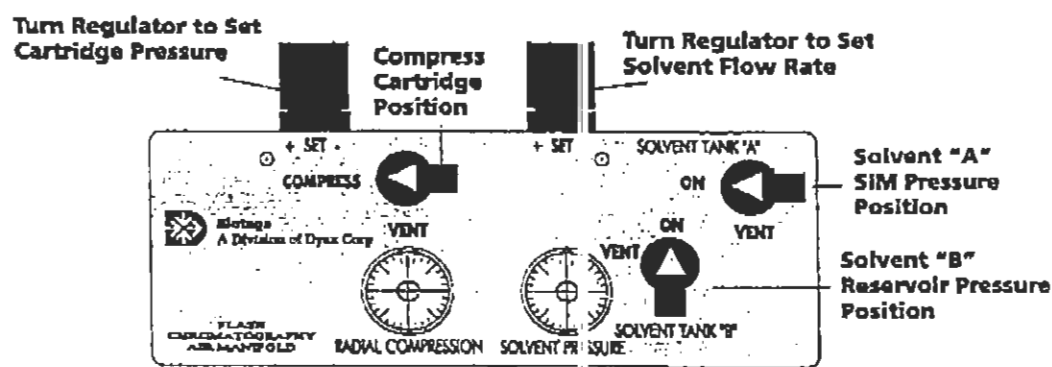

Figure 11: Radial compression and solvent pressure/flow settings for the AM-190 Air Manifold
- 4.2.2 Open the valve over the **RADIAL COMPRESSION** gauge on the air manifold from **VENT** to **COMPRESS** to pressurize the radial compression module (Figure 11). Adjust the regulator to achieve 100 psi of radial compression pressure.
- 4.2.4 Pressurize the Solvent Reservoir by turning the **SOLVENT TANK "B"** valve from **VENT** to **ON** (Figure 11). Set the solvent flow rate by adjusting the **SOLVENT PRESSURE** regulator as follows